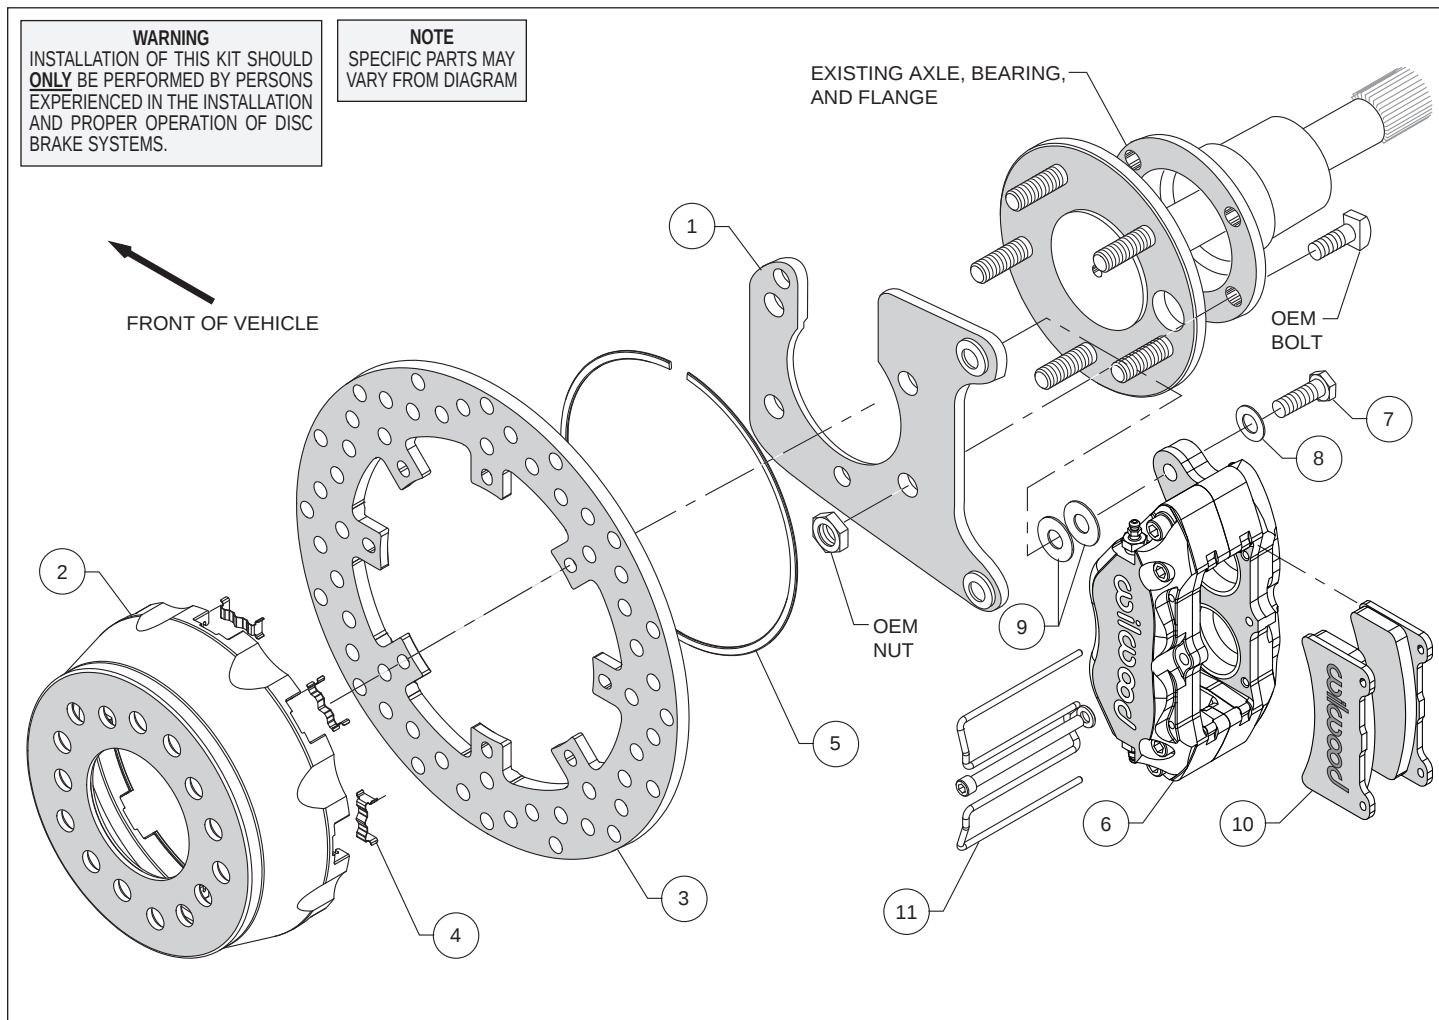
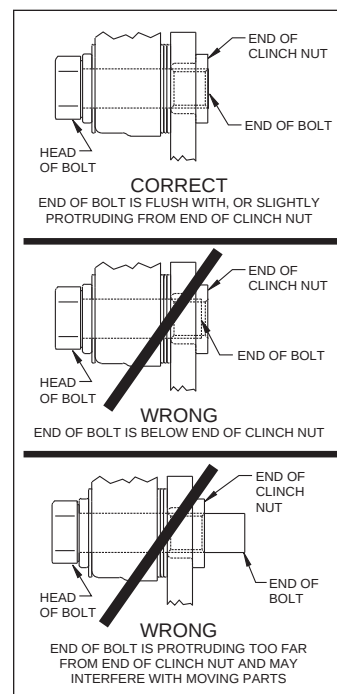

Figure 1. Typical Installation Configuration
Figure 5. Clinch Nut Engagement Diagram
Assembly Instructions (numbers in parenthesis refer to the parts list and Figure 1 on the preceding pages): **CAUTION:** All mounting bolts must fully engage clinch nuts. Be sure to check that all bolts are either flush or protruding through flanged side of clinch nut after shimming, Figure 5.
- Install the caliper mounting bracket (1), with the slot for the axle pointing upward, to the housing flange using the OEM bolts and nuts, as shown in Figure 1 and Photo 1. Ensure that the heads of the clinch nuts are facing outboard, Photo 1. Apply red *Loctite*® 271 to the OEM bolt threads and torque to OEM specifications.
- Insert the dynamic mount wear clips (4) into the slots in the hat (2) making sure the tabs snap in place, Photo 2. Orient the rotor (3) as shown in Figure 1 and Photo 3, with the flush mount tab side facing the hat. Attach the rotor to the hat using snap ring (5) by pushing down on the rotor and installing the ring into the groove in the hat, as shown in Photo 4. Ensure that the ring is fully engaged in the groove.
- Align the correct hole pattern in the hat (2) with the axle stud pattern and slide the hat/rotor assembly onto the axle hub. **NOTE:** The hat must fit flush against the axle flange or excessive rotor run out may result. Install three lug nuts (finger tight) to keep the hat/rotor in place while continuing with the installation. **NOTE:** The hats included in this brake kit are drilled for .68" diameter wheel studs.
- NOTE:** Please reference the caution statement at the beginning of the assembly instructions. Mount caliper (6) onto the mounting bracket (1) using bolts (7) and washers (8), as shown in Figure 1. Initially place two .035" thick shims (9) on each bolt between the caliper and the bracket, Photo 5. Temporarily tighten the mounting bolts and view the rotor (3) through the top opening of the caliper. The rotor should be centered in the caliper, Photo 6. If not, adjust the caliper by adding or subtracting shims between the bracket and the caliper. Always use the same amount of shims on each of the two mounting bolts. **NOTE:** The end of each bolt must be flush with or slightly protruding from the head of the clinch nut. If necessary, place spare shims between washer and caliper mounting ear to achieve the proper clinch nut engagement, as shown in Figure 5. Once the caliper alignment and clinch nut engagement are correct, remove the bolts one at a time, apply red *Loctite*® 271 to the threads, and torque to